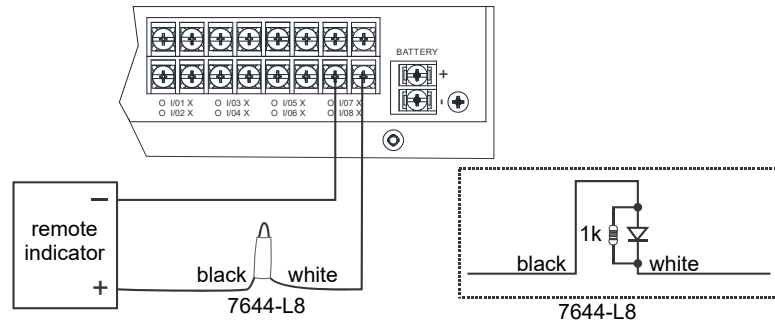

Figure 4.57 Polarity Reversal Connection Using the 7644-L8
- Wire the 7644-L8 to the control panel as shown in Figure 4.57. Do not install an EOL resistor on the terminals of the circuit used.